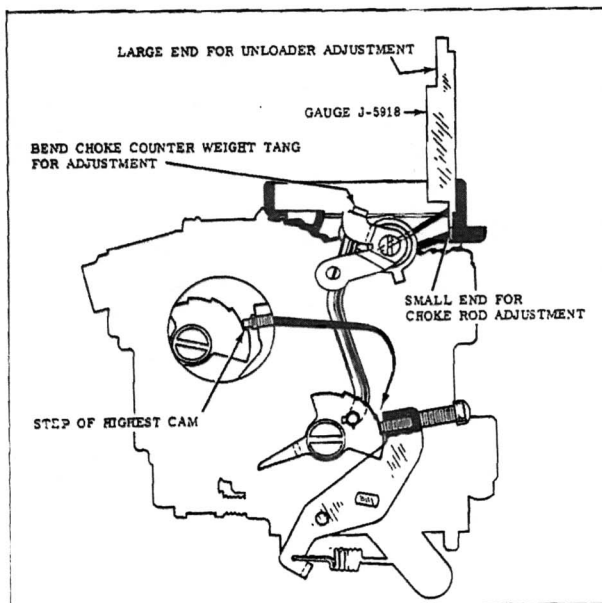

Fig. 41 Choke Rod Adjustment
2. Hold the fast idle cam so the shoulder of the highest step is against the fast idle screw and check setting (.040") with small end of gauge J-5918 as shown in Fig. 41.